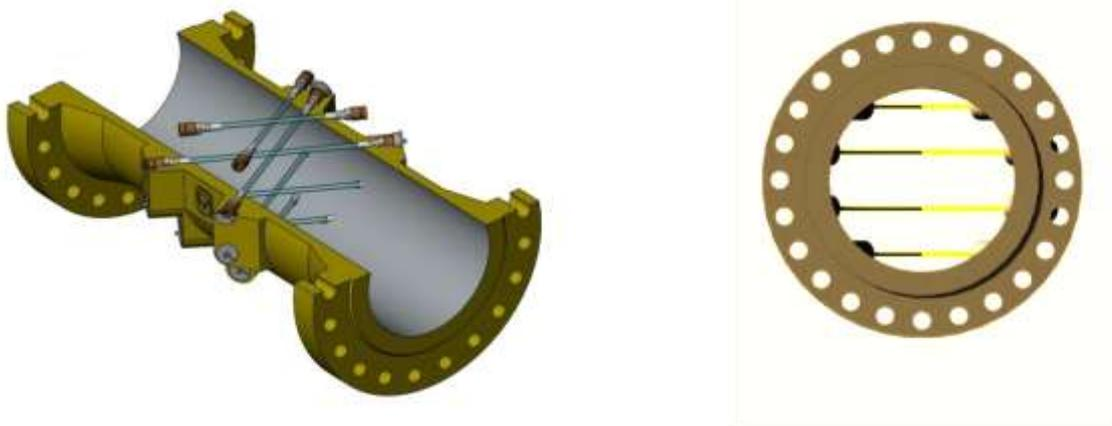
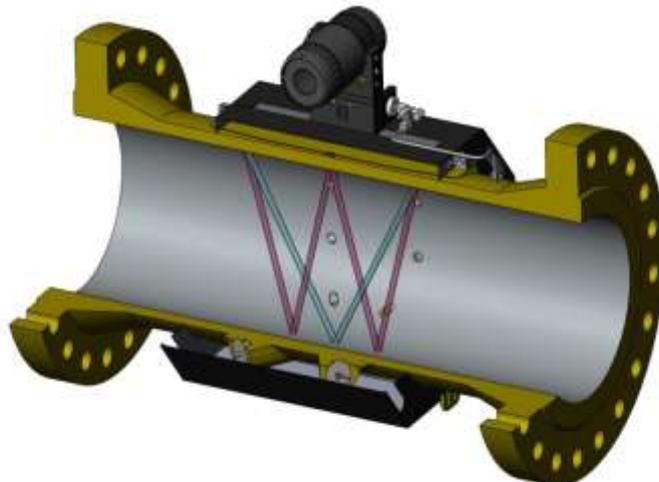

Figure 4 – Measuring scheme of the Vympel-500 ultrasonic measurement system
Figure 5 – Passage of additional channel ultrasonic signal
1.5.2 Vympel-500 ultrasonic measurement system is equipped with two measurement planes with four (DN 150–1400) and two (DN 80–100) measurement channels in each plane (Figure 4). If necessary, the second measurement plane (DN 150–1400) can be used to connect the second electronics module to back up readings from the first meter.
1.5.3 The Vympel-500 ultrasonic measurement system with an additional channel has a channel in addition to measurement channels that operates using reflections of the acoustic signal from the inner wall of the pipeline (Figure 5). The additional channel is used to monitor contamination of the pipeline's internal surfaces.
During radiation, the acoustic signal travels along several paths, including the V-path with a single reflection and the W-path with a triple reflection (Figure 5).
The pipeline contamination monitoring procedure is based on comparing the average speed of flow using the 'sensor to sensor' method (Figure 4) to the measured data in the additional channel 'with reflection' (Figure 5).